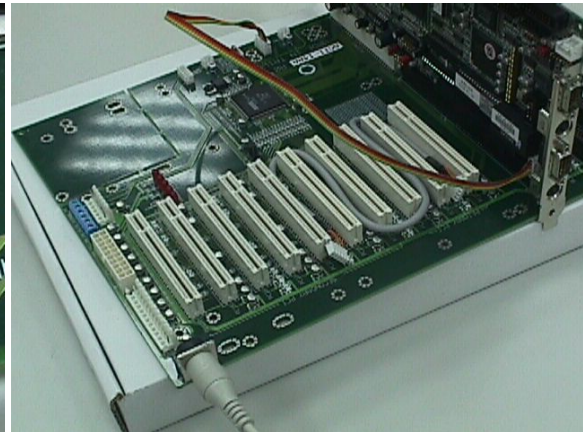

Fig.6
1. If you are using a standard PC/AT keyboard, please apply a 5-pin keyboard control cable between your SBC and backplane over the 5-pin shrouded header KB1 or KB2. This will enable KB3 (DIN connector) (**Fig.6**).